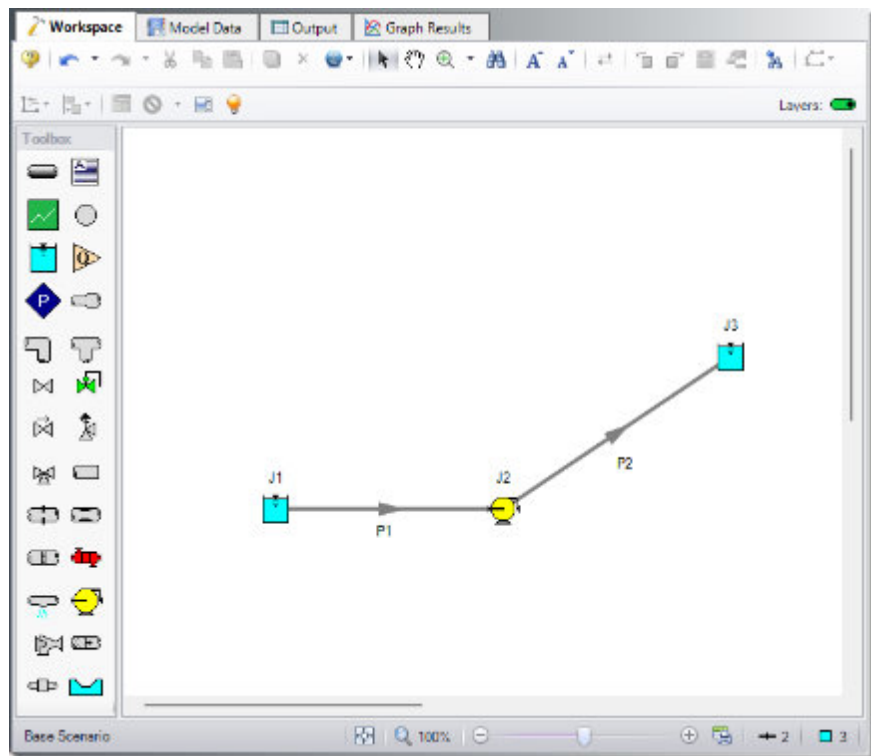

Figure 2.9 Pump Sizing model with pipes and junctions placed
- **Activate the Pipe Drawing Tool again**, position the mouse pointer on the J2 Pump, then press and hold the left mouse button. Stretch the pipe across to the J3 Reservoir, and then release the mouse button. Your model should now look similar to Figure 2.9.